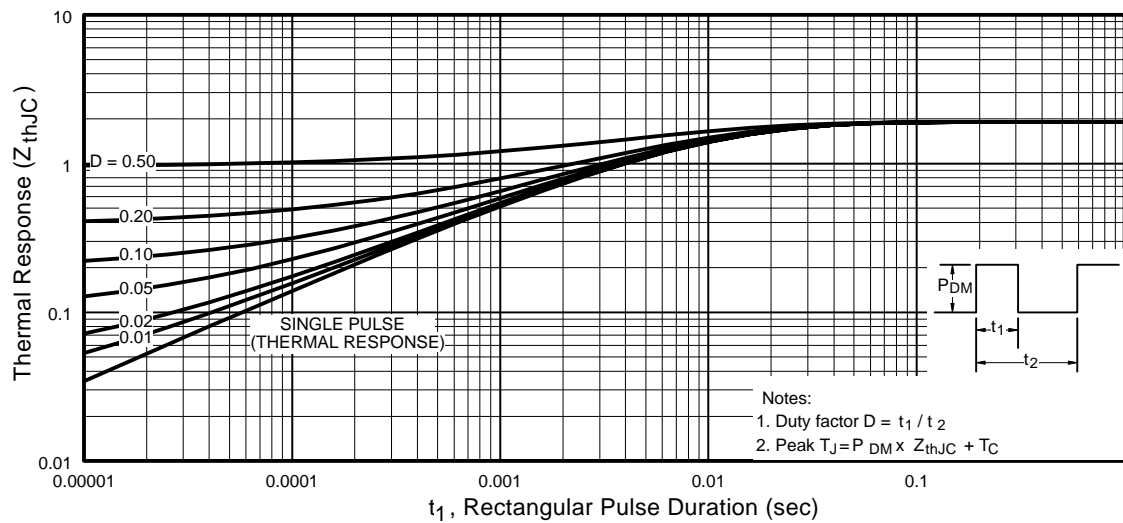

Fig 11. Maximum Effective Transient Thermal Impedance, Junction-to-Case
- ① Repetitive rating; pulse width limited by max. junction temperature. (See fig. 11)
- ② $V_{DD} = 25V$, starting $T_J = 25^\circ\text{C}$, $L = 3.1\text{mH}$